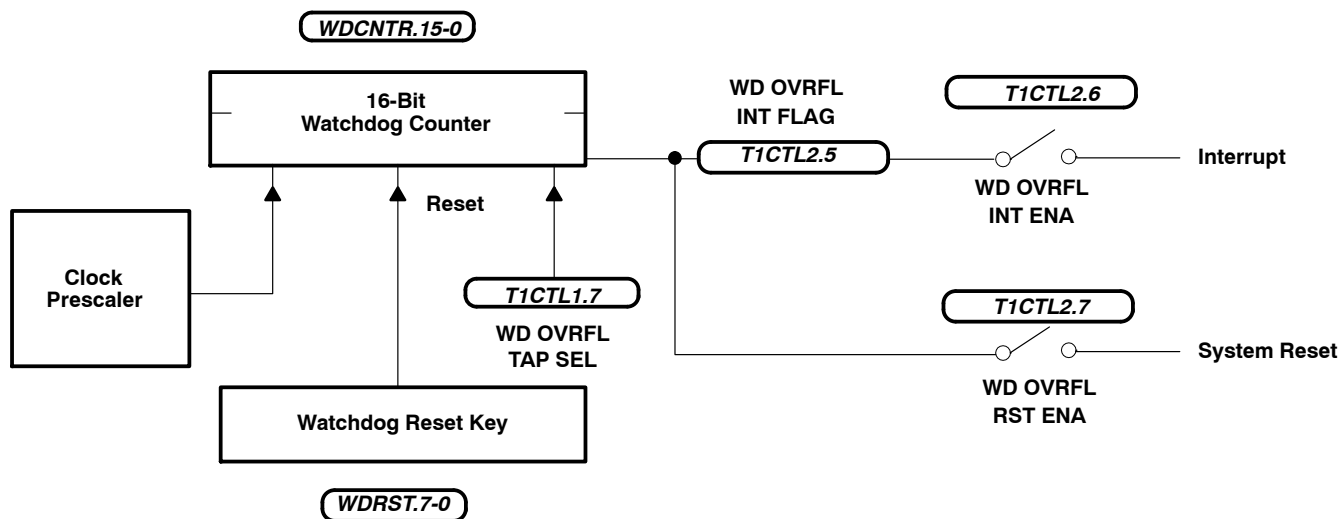

Figure 9. Standard Watchdog
- Standard WD configuration (see Figure 9) for 'C742A EPROM and mask-ROM devices: